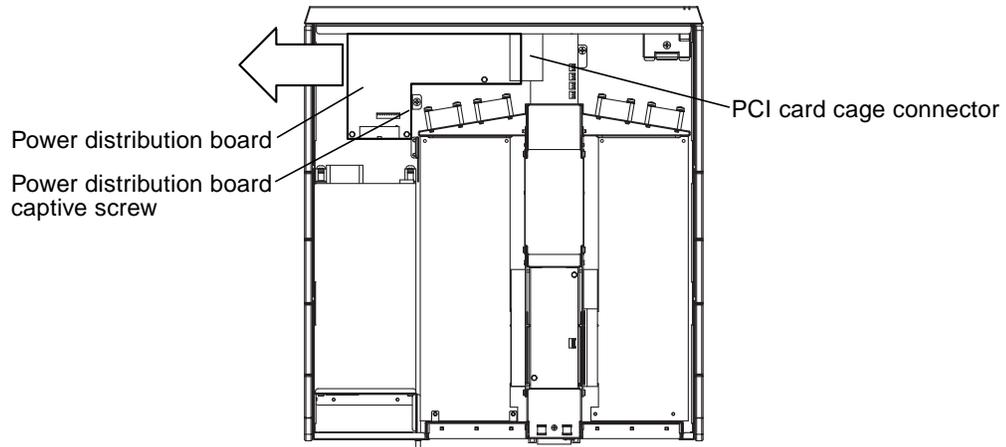

FIGURE 2-2 Disconnecting the Power Distribution Board From the PCI Card Cage
6. Using a #1 Phillips screwdriver, loosen the one captive screw shown in FIGURE 2-2 that holds the power distribution board in position.